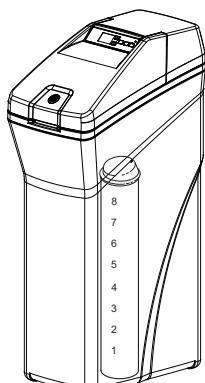

Figure 15
2. Determine level of salt in brine tank using the numbered scale on side of brine well, inside brine tank (see Figure 15).